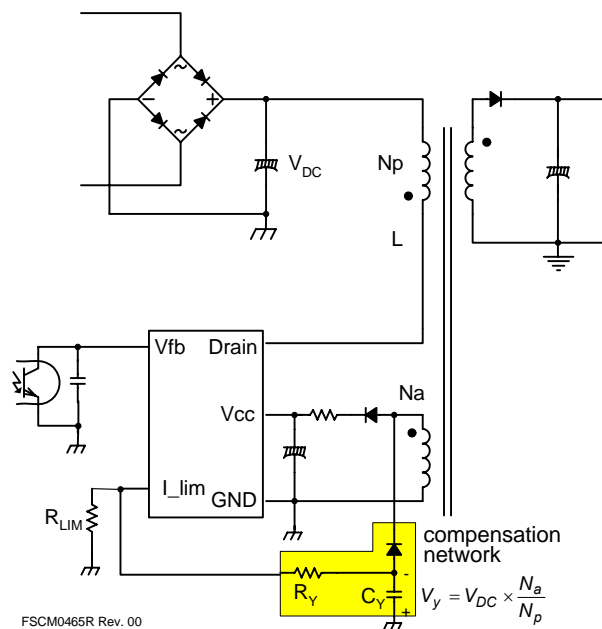

Figure 19. Constant power limit circuit
2.2 Constant Power Limit Circuit: Due to the circuit delay of FPS, the pulse-by-pulse limit current increases a little bit when the input voltage increases. This means unwanted excessive power is delivered to the secondary side. To compensate, the auxiliary power compensation network in Figure 19 can be used. R_{LIM} can adjust pulse-by-pulse current by absorbing internal current source (I_{FB} : typical value is 0.9mA), depending on the ratio between resistors. With the suggested compensation circuit, additional current from I_{FB} is absorbed more proportionally to the input voltage (V_{DC}) and achieves constant power in wide input range. Choose R_{LIM} for proper current to the application, then check the pulse-by-pulse current difference between minimum and maximum input voltage. To eliminate the difference (to gain constant power), R_y can be calculated by: